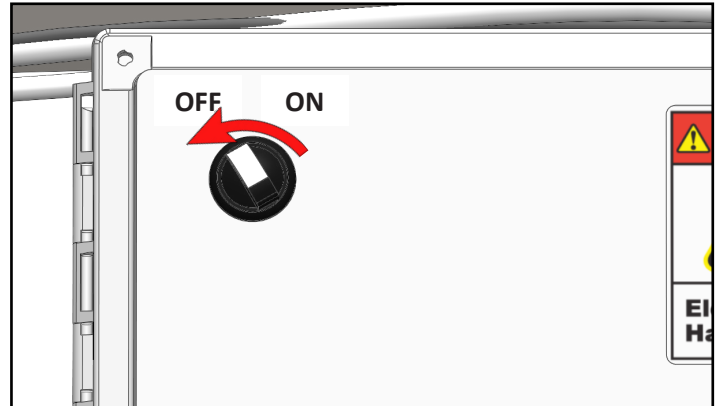

Fig. 9.1: Controller power switch
1. Turn the power switch to "OFF" [Figure 9.1].
2. Open the drain valve to drain the foot bath [Figure 9.1].